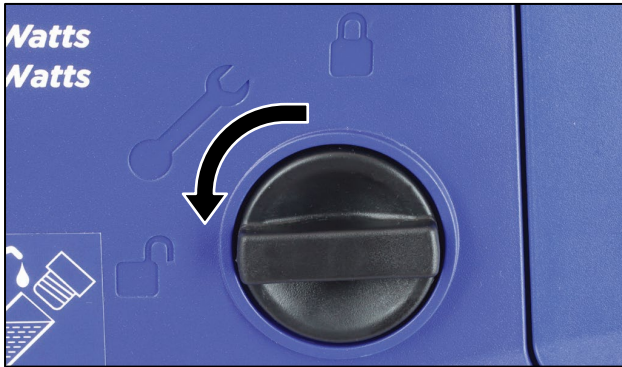

Figure 12 RHS Access Cover Lock in the Unlocked Position
1. Turn the RHS access cover lock anti-clockwise to the unlocked position (see Figure 12).